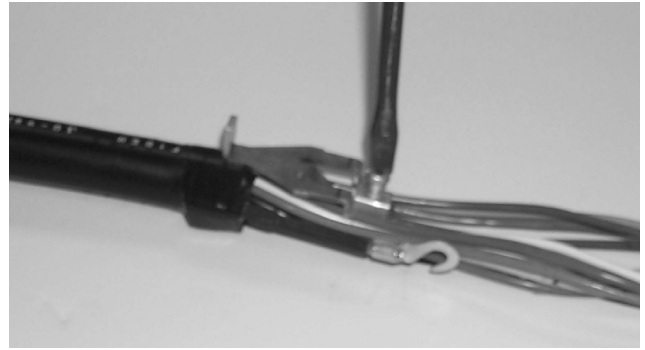

Figure 1
3. Insert strength member(s) into the strength member attachment bracket and tighten screw. (Figure 1)